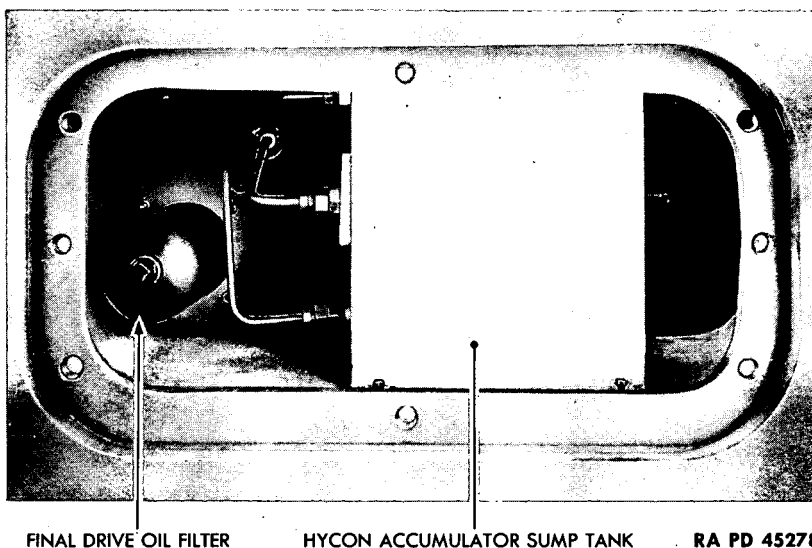

Figure 28—Installed Hycon Accumulator Sump Tank and Final Drive Oil Filter
d. Accumulator Sump Tank (fig. 28). The accumulator sump tank is a 10½-inch outside diameter sphere, located in the lower right rear sponson. Access to the tank is provided from within the engine compartment or by removing the protective compartment plate from the right track armor plate. Under operating conditions the center column is filled with hydraulic fluid. The oil in the outer chamber is carried at a predetermined level which fluctuates as oil is withdrawn from or admitted to the pressure tank by operation of the steering and braking controls. This center column is enclosed in a tube, its edges being welded to the pressure tank interior at the top, and having a slight clearance at the bottom. Nitrogen gas under high pressure is admitted to the outside of this column when the tank is initially charged and 2 quarts of glycerin-blend fluid is admitted as an inhibitor of gas and oil diffusion.